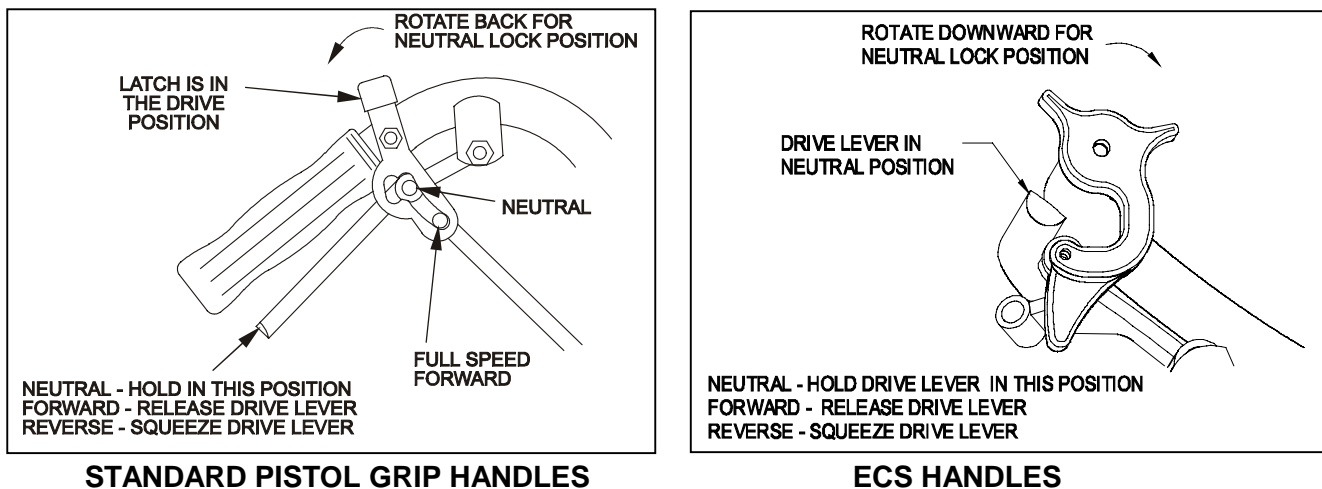

FIGURE 7
- 4.1.3 **Drive Levers:** Located on each side of the upper handle assembly directly below the handle grips (See Figure 7). These levers individually control the speed and direction of each drive wheel. When the speed control lever is moved out of the neutral position and the neutral lock latches are moved into the drive position, as shown in Figure 7, and the drive levers are released, the drive wheels are engaged in the forward direction.
- 4.1.4 **Neutral Lock Latch:** Located directly above the drive levers. These latches allow the operator to lock the drive levers in a "neutral" position where neither of the drive wheels are engaged in either a forward or reverse direction (See Figure 7).
For Standard Pistol Grip Handles: To lock the drive levers in neutral, squeeze the drive levers back to the neutral position (**Do Not** squeeze the drive levers all the way back as this will cause the drive wheels to go into full reverse direction). Place thumbs on the upper portion of the neutral lock latches and move them to the rear. Release drive levers (See Figure 7).
For ECS Handles: To lock the drive levers in neutral, squeeze the drive levers back to the neutral position (**Do Not** squeeze the drive levers all the way back as this will cause the drive wheels to go into full reverse direction). Place thumbs on the inner thumb lobe of the neutral lock latches and push downward, moving them under the drive levers. Release drive levers (See Figure 7).